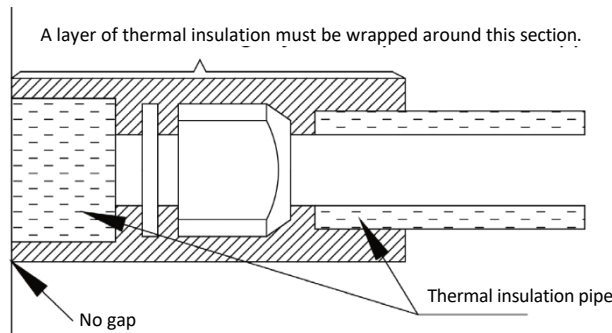

Fig. 22
- ① For multi-DRV systems, each copper pipe must be labeled to prevent connection errors.
- ② At the branch connection, leave at least 500 mm of straight pipe.
- ③ Thermal insulation for piping.
- 4) Connections on the indoor and outdoor units must be wrapped with thermal insulation, leaving no gap between the pipe and the wall. See Fig. 22.